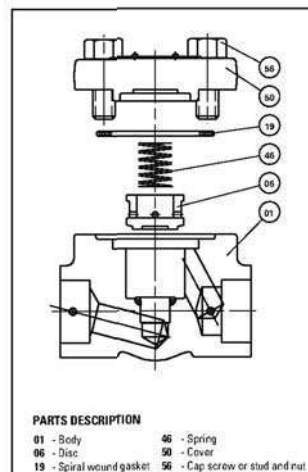

Figure 8.2A Bolted cover piston check valve exploded view
The disassembly instructions below cover all of Velan's small bolted cover piston or ball check and stop check valves. As the general disassembly progresses, place matching marks on parts so that the same parts will be used at reassembly (refer to Figures 8.2A and 8.2B).
2. Once all the cap screws (nuts) are removed, the entire cover can be lifted off the valve body as shown in Figures 8.2A, 8.2B, and 8.2C.
3. Remove used spiral wound gasket (19).
4. Lift spring (46) and piston disc or ball (06).